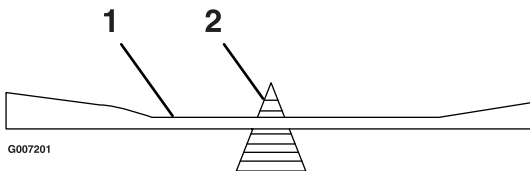

Figure 46
2. Check the balance of the blade by putting it on a blade balancer (Figure 46). If the blade stays in a horizontal position, the blade is balanced and can be used. If the blade is not balanced, file some metal off the end of the sail area only (Figure 46). Repeat this procedure until the blade is balanced.